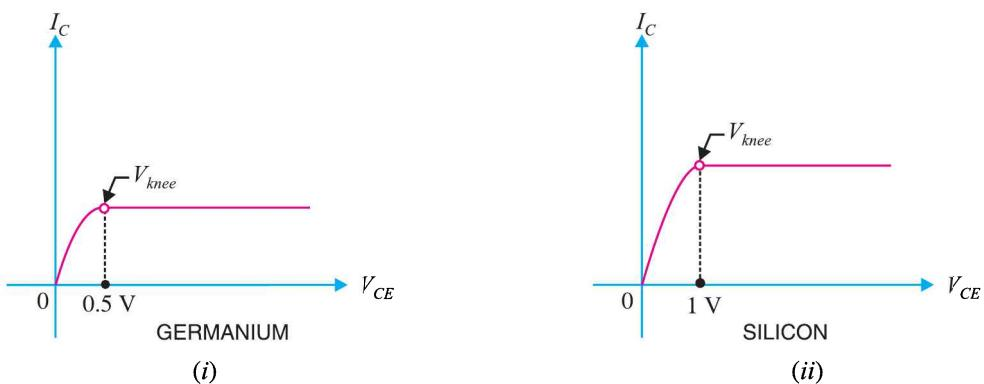

Fig. 9.4
**(iii) Proper minimum  $V_{CE}$  at any instant.** For faithful amplification, the collector-emitter voltage  $V_{CE}$  should not fall below 0.5V for Ge transistors and 1V for silicon transistors. This is called knee voltage (See Fig. 9.4).